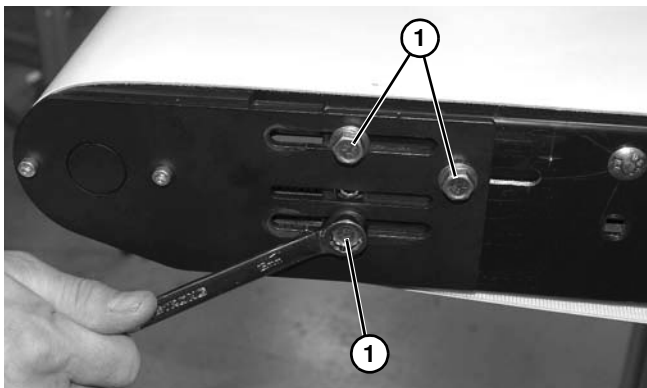

Figure 99
1. On tension tail end of conveyor, loosen the three screws (Figure 99, item 1) on each side of conveyor.